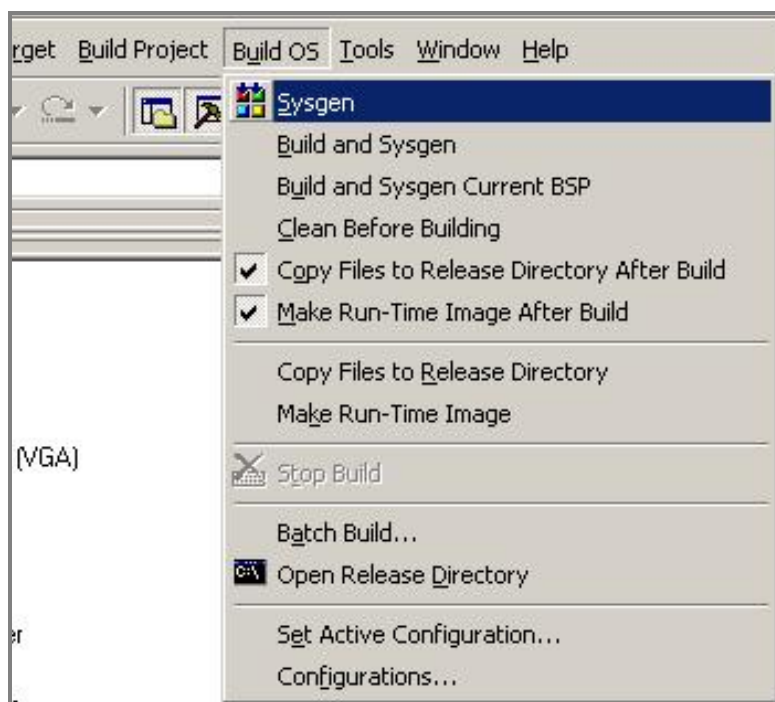

Figure 4-2 Building the BSP for the First Time
4. Using the **Build OS** menu, configure the build options as follows (Figure 4-2):